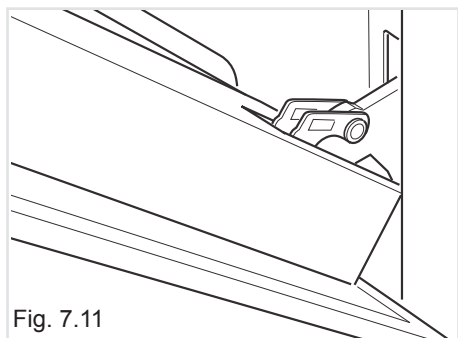

Fig. 7.11
1. Make sure the door is locked open (see fig. 7.11).